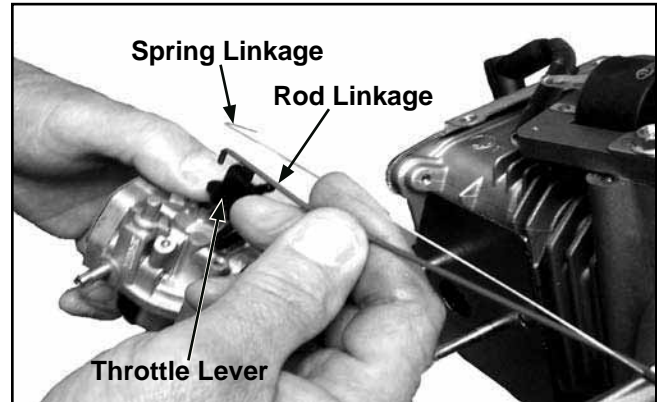

Figure 8-15. Disconnecting Carburetor Linkage.
3. Turn the throttle lever clockwise until it stops. Gently push the rod and spring linkages up to disconnect them from the throttle lever. See Figure 8-15.